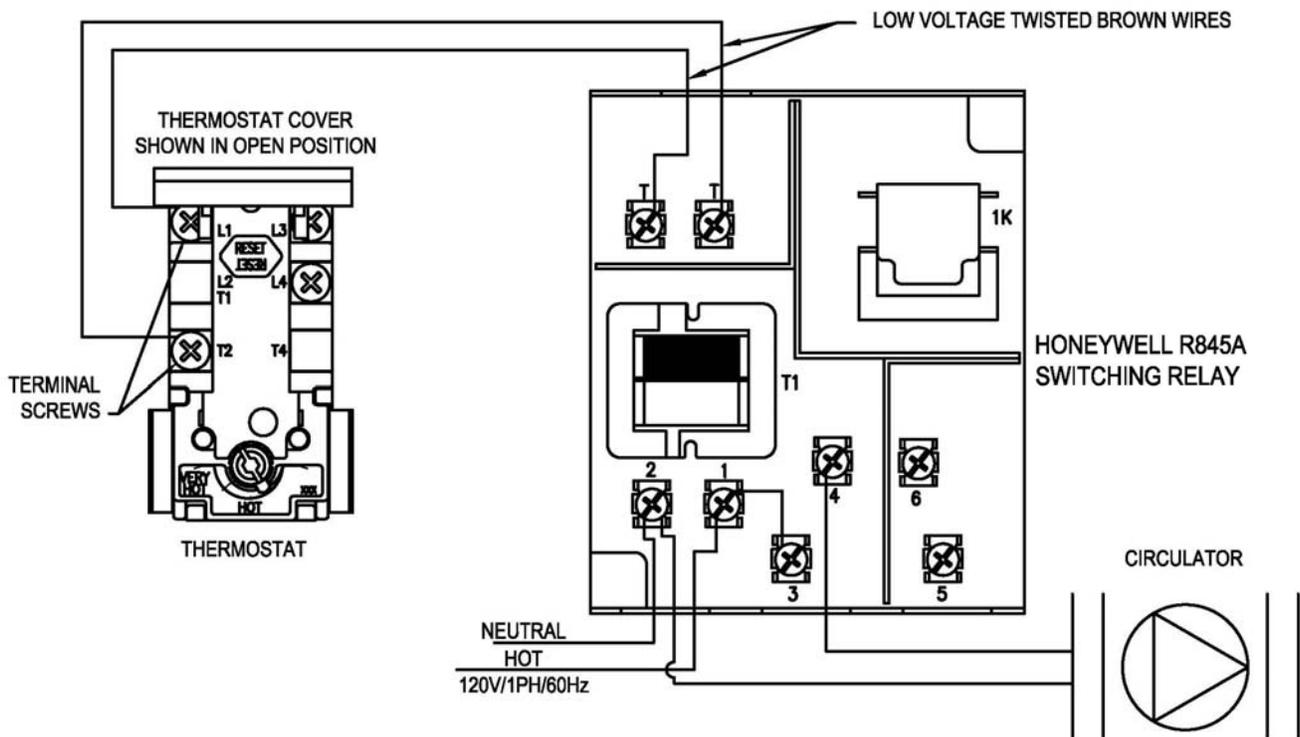

Figure 1 – Winter/Summer Kit Wiring Diagram
2. Remove the wire nut from the twisted brown wires and strip the wire ends leaving ¾" of bare wire exposed. Grasp the bottom of the grey thermostat cover and lift to gain access to the screw terminals. Connect the wires to the thermostat as shown in Figure 1. Gently tug each wire to the side, verifying that they are firmly secured. Adjust the temperature setting if necessary. Lower the thermostat cover over the screw terminals and allow the insulation to come back down over the thermostat cover. Fasten the access cover back in place by inserting the bottom tab just inside the heater jacket and tipping up to secure the top to the outside of the jacket with the screw.
3. Remove the Honeywell RA845A switching relay from the box and inspect for damage. Remove the cover and secure the Honeywell RA845A switching relay to the jacket head. This Honeywell RA845A switching relay uses the thermostat contacts to open and close the hot 120 Vac leg going to the circulator. Feed the brown wires through the installed black rubber grommet and strip the ends leaving ¾" of bare wire exposed. Connect the twisted brown wires to the "T" screw terminals in the Honeywell RA845A switching relay as shown in Figure 1. Connect the 120Vac line voltage to the Honeywell RA845A switching relay and circulator as shown in Figure 1. Apply the Honeywell RA845A switching relay cover and tighten in place.